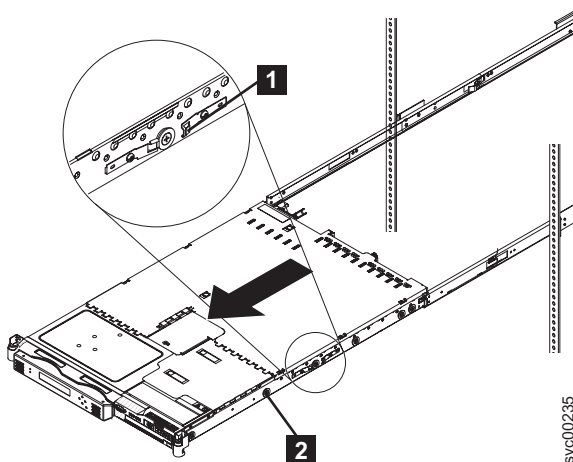

Figure 34. Removing the SAN Volume Controller 2145-8G4 from the rack
4. Position yourself to support the weight of the node when it is no longer held by the slides and then press the rear slide release latches (1 in Figure 34) on both sides of the SAN Volume Controller 2145-8G4 node.